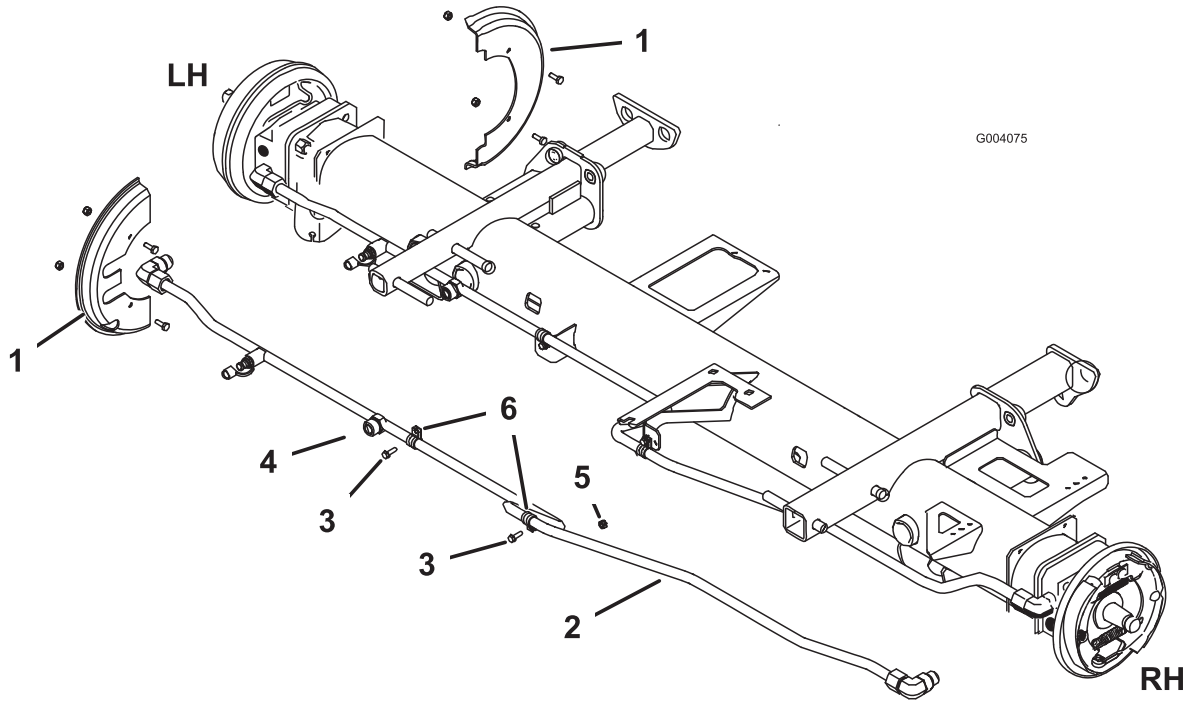

Figure 10
3. Remove the cap screws and nuts securing the wheel shields to the front axle flanges (Figure 10).
4. Disconnect the hydraulic tube from the top fitting on the front left wheel motor and the bottom fitting on the front right wheel motor (Figure 10).
5. Remove the R-clamps securing the tube to the frame (Figure 10) and the cable ties securing the brake cables to the hydraulic tubes.
6. Disconnect the left hand hose from the variable pump and the hydraulic tube (Figure 10). Also, remove the 45 degree fitting from the bottom of the variable pump (Figure 10).
6. Install the wheel shields to the front axle flanges with the cap screws and nuts previously removed (Figure 10).